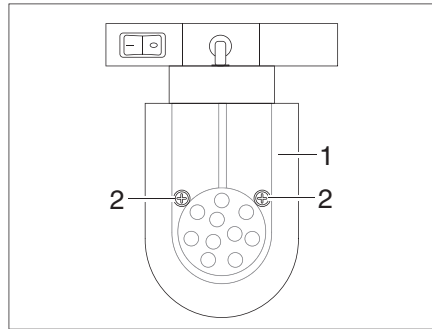

Fig. 364 LED spotlight (movable)
- Loosen the fixing screws (Fig. 364,2).
- Remove the lamp glass cover (Fig. 364,1) carefully.